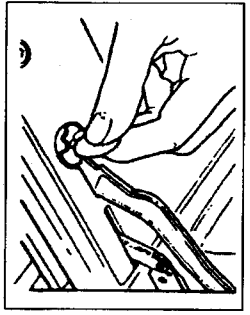
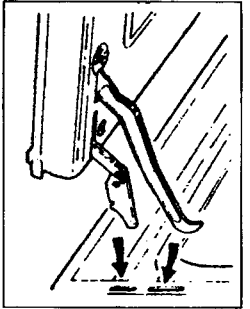
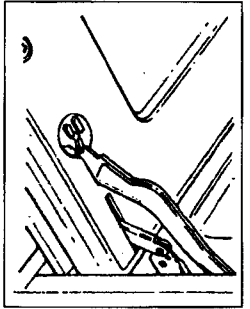

Fig. 8
Fig. 9
Fig. 10
**Please note** that the door is heavy and care should be taken not to pinch your fingers during the removal and replacement. To remove, open the door fully and, using a coin or screwdriver, turn the two discs clockwise to the position shown below (Fig. 8). Slightly close the door, unhook the lower hinge fingers, then pull the door away from the oven front frame. To replace, insert the lower fingers and the hooked ends of the doorstays, ensuring that the slots in the lower fingers engage with the front frame (Fig. 9). Fully open the door and turn the discs anti-clockwise to their normal working positions (Fig. 10). Close the door - the hinge will now lock into position.